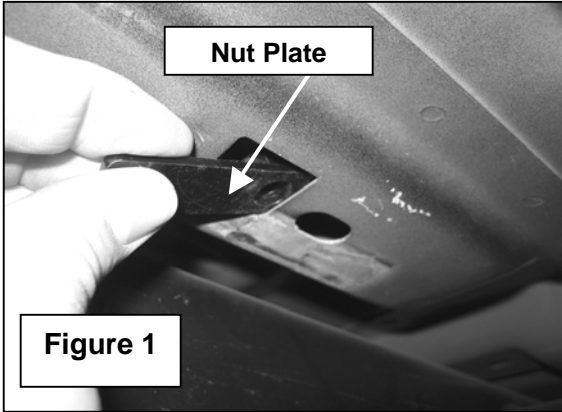

Figure 1
2. Insert a nut plate into the frame opening on the front driver side with the nut facing up, (Figure 1).